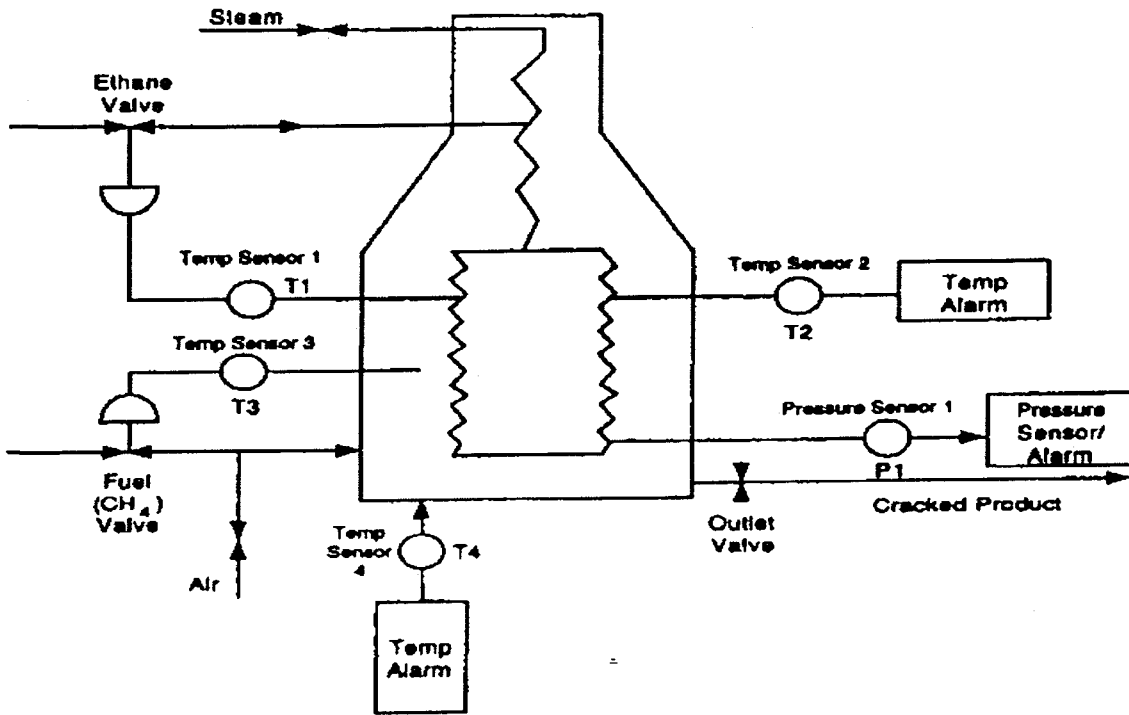

Figure Q.4.[c]
- [c] Figure Q. 4.[c] shows the schematic of a cracking heater for a plant producing ethylene. A combined effect of "Damage due to high temperature" and "Radiant tube rupture due to mechanical stress" may result a typical fire and explosion in the furnace. Construct a fault tree diagram with the top event of "Fire/Explosion in the furnace".